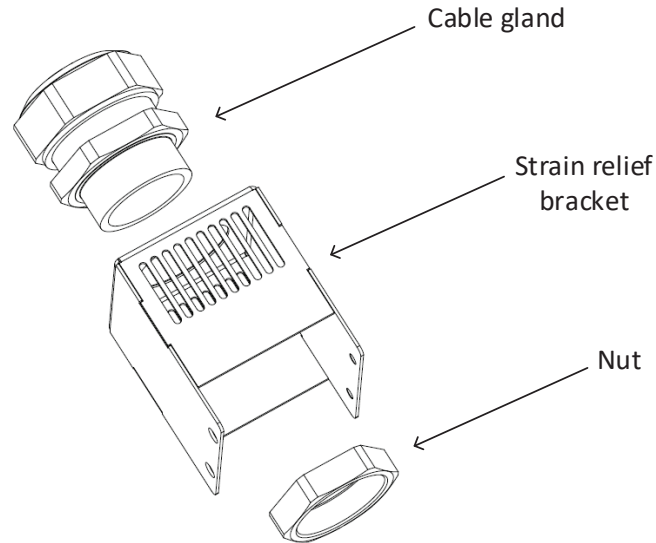
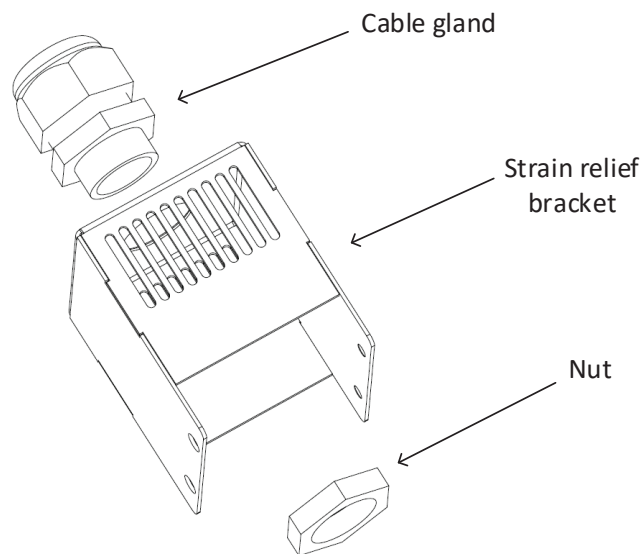

Figure 4-31: Insertion of the Plastic Nut into 3-Phase 200 Strain Relief Bracket
Figure 4-32: Insertion of the Plastic Nut into 3-Phase 400/480 Strain Relief Bracket
2. Insert the Cable gland into the Strain relief bracket Assembly. For 3-Phase 208, refer to Figure 4-31. For 3-Phase 400/480, refer to Figure 4-32.